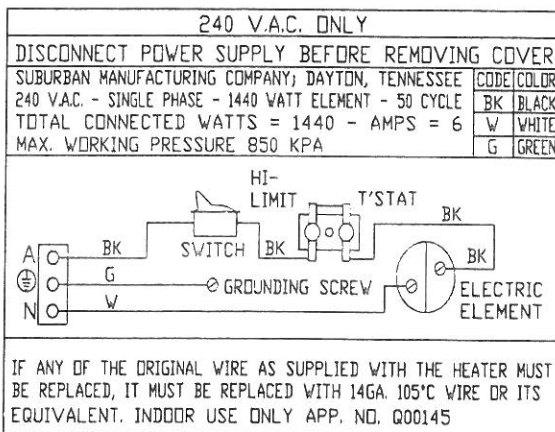

Figure 5A
- Check rating plate and wiring diagram (Figure 5A) before proceeding. Install a fused safety switch or circuit breaker of adequate capacity between heater and electrical power source. Attach the active and neutral wires from the fused switch or breaker to corresponding terminals in heater junction box. An earth wire from a well grounded source must be attached to the earth terminal in the junction box.